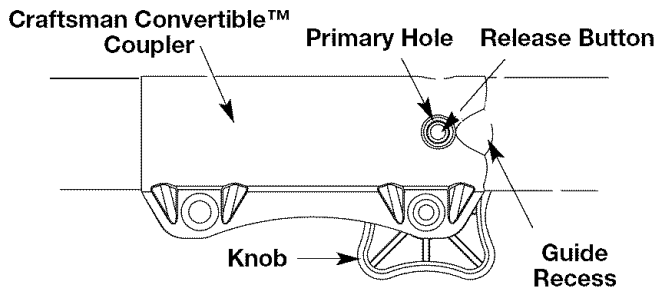
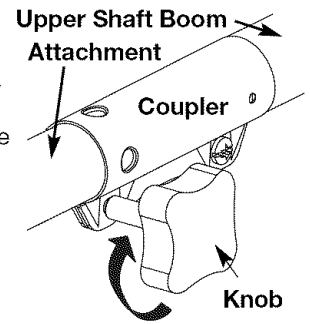

Fig. 9
Fig. 10
3. While firmly holding the attachment, push it straight into the coupler until the release button (Fig. 9) snaps into the primary hole (Fig. 9). The primary hole is on the opposite side of the coupler from the knob (Fig. 9). Align the release button with the Guide Recess (Fig. 9) to help installation.
4. Turn the knob clockwise to tighten (Fig. 10).
**CAUTION:** Lock the release button in the primary hole (Fig. 9) and securely tighten the knob (Fig. 10) before operating this unit.
3. Press and hold the release button (Fig. 9).
4. While firmly holding the upper shaft boom (Fig. 10), pull the attachment out of the coupler.
**CAUTION:** Before operating this unit, be sure that the release button is fully snapped into the primary hole (Fig. 9), and that the knob (Fig. 10) is securely tightened.